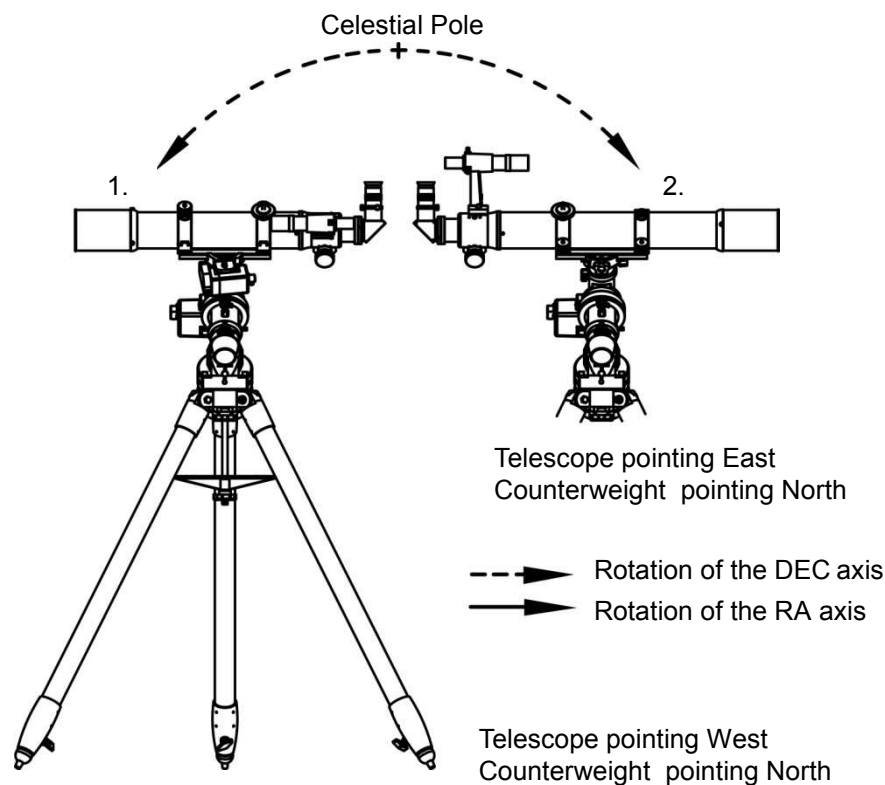

Fig 19
2.3.2 Pointing toward the western or eastern horizon (fig. 19)